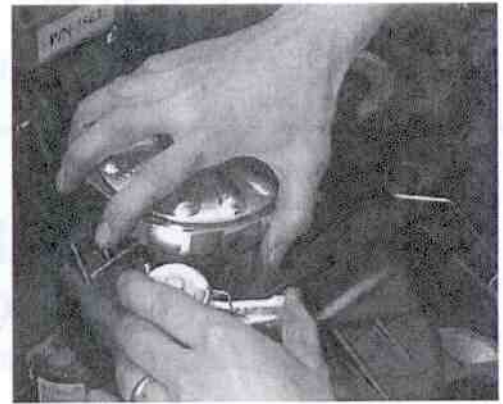

Figure 3
5. The ratchet pawl, before tension is applied should rest between the three and six o'clock positions. When replacing the brake assembly on the shaft, the pawl must be rotated one full turn clockwise for proper spring tension against the ratchet. (see Figure 3)
8. Add six (6) ounces of SAE 30 oil to the lower housing. (Do not overfill)
3. The ratchet pawl, before tension is applied, should rest between the three and six o'clock positions. When replacing the brake assembly on the shaft, the pawl must be rotated one full turn clockwise for proper spring tension against the ratchet. (see Figure 3)